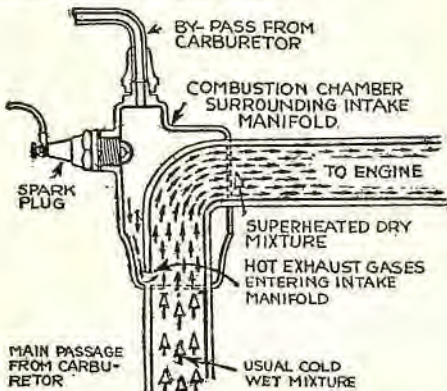

Fig. 18. Packard fuelizer. See also Fig. 51, page 140.
7. By a method termed a "fuelizer," as used on the Packard (Fig. 18).
The pipe marked "By-Pass" (Fig. 18) carries a minute quantity of gas direct from the carburetor